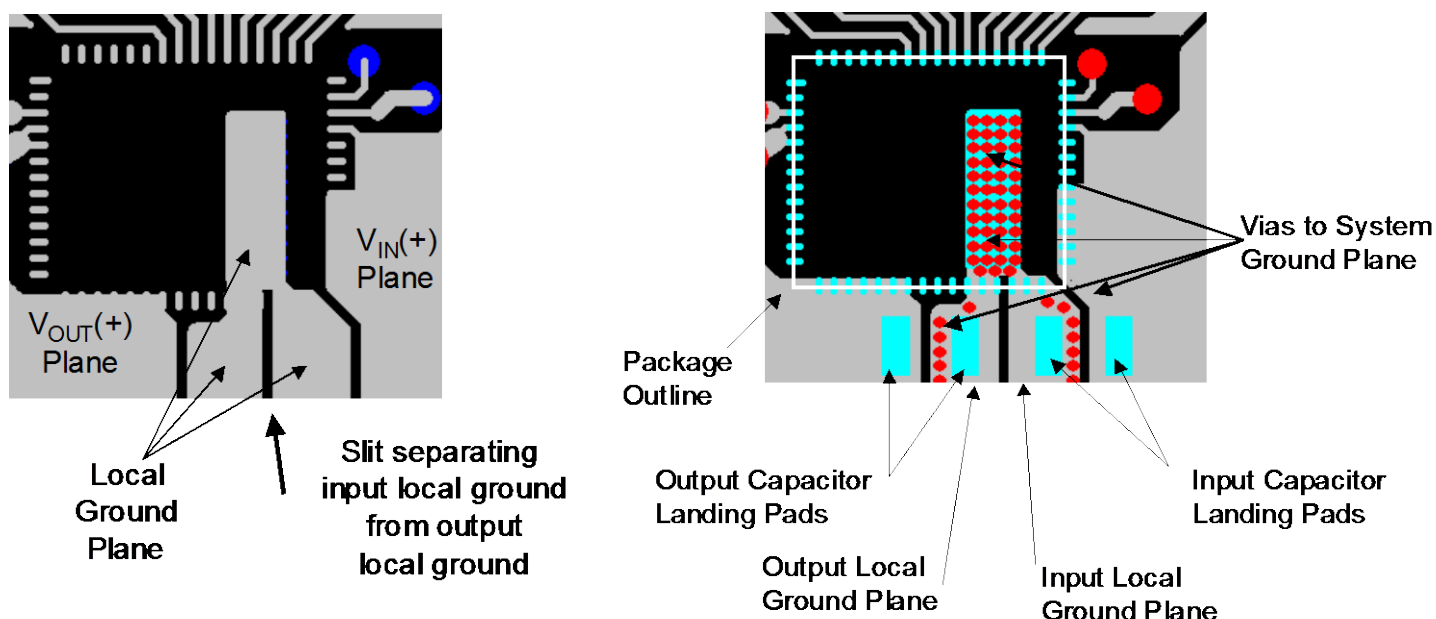

Figure 8. Layout of power and ground planes. Figure 9. Use of vias connecting local and system ground.
**Recommendation 2:** Place a slit in the input/output capacitor ground plane just beyond the common connection point of the GND pins of the device as shown in Figure 8.